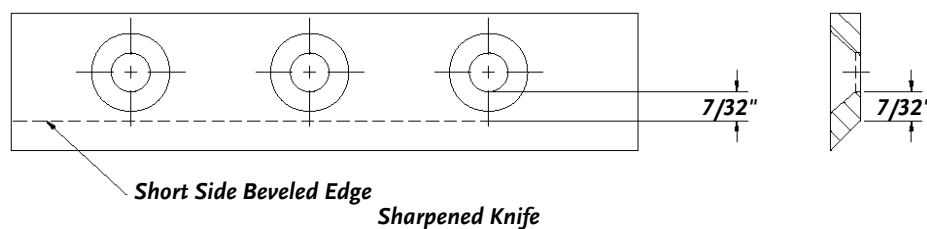

Figure 33
- Once this measurement is below 7/32" (see **Figure 33 “Sharpened Knife”**), or if you are unable to remove dents or gouges with these guidelines, replace the Knife.